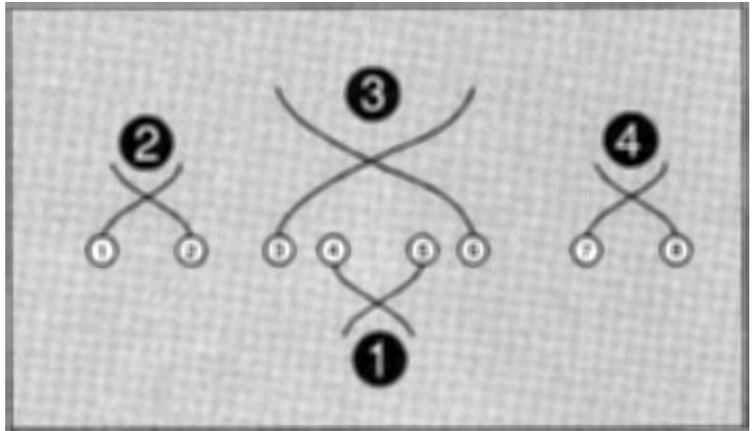

Figure E-1. Making Correct Twisted-Pair Connections
2. When making twisted-pair connections, keep conductors of a pair together. Do not form a pair by taking a conductor of one pair and twisting it with a conductor of another pair. See Figure E-1.